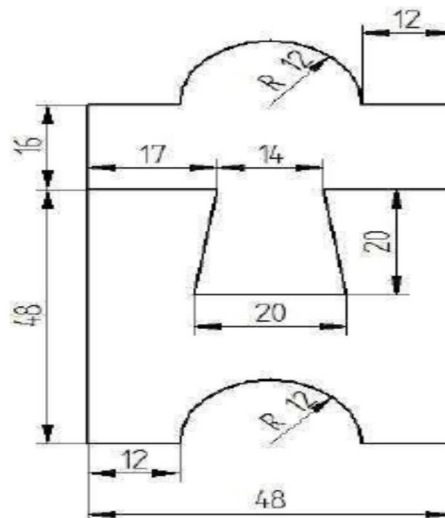

Figure1 : Machine bracket
- a) A machine bracket shown in figure 1 is to be fabricated in the workshops out of a flat bar work piece of the 20mm by 60mm by 100 mm length.